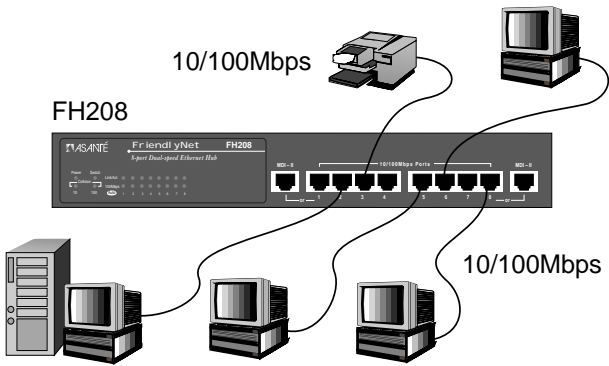

Figure 2-13 Connecting Workstations
- 4** Continue connecting workstations to the hub using UTP cables to create a network as shown in the example in Figure 2-13. Additional devices can be connected through the MDI-II ports using straight through (UTP) cables.